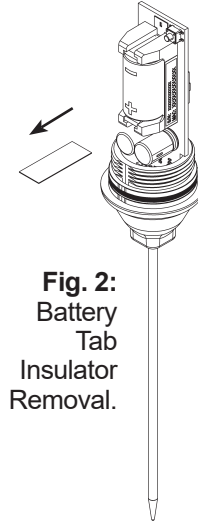
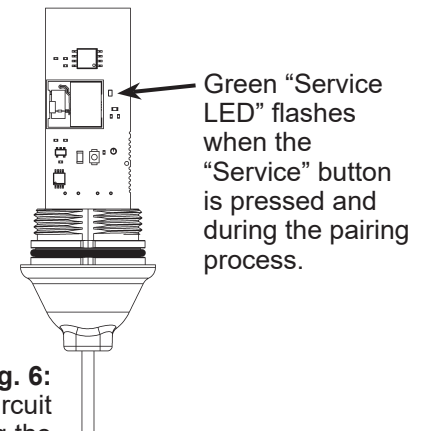

Fig. 2: Battery Tab Insulator Removal.
Fig. 6: Back Side of Circuit Board showing the “Service LED”
2. **Battery Tab Insulator Removal:** The food probe is powered by a pre-installed battery. To activate the unit, find the battery tab insulator, pull it out and discard the tab (Fig. 2). Press the “Service” button and the “Service LED” on the back side of the circuit board (Fig. 6) should flash once to confirm power.